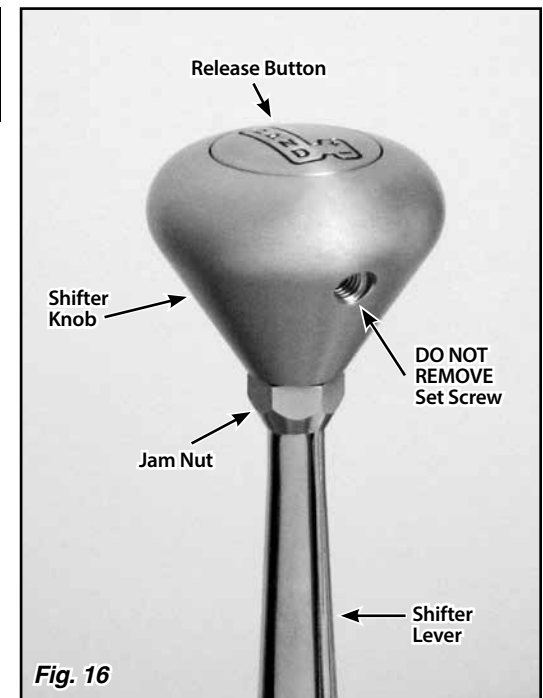

Fig. 16
**Step 2:** Loosen the jam nut below the shifter knob. **DO NOT** loosen or remove the set screw that is in the knob. Fig. 16